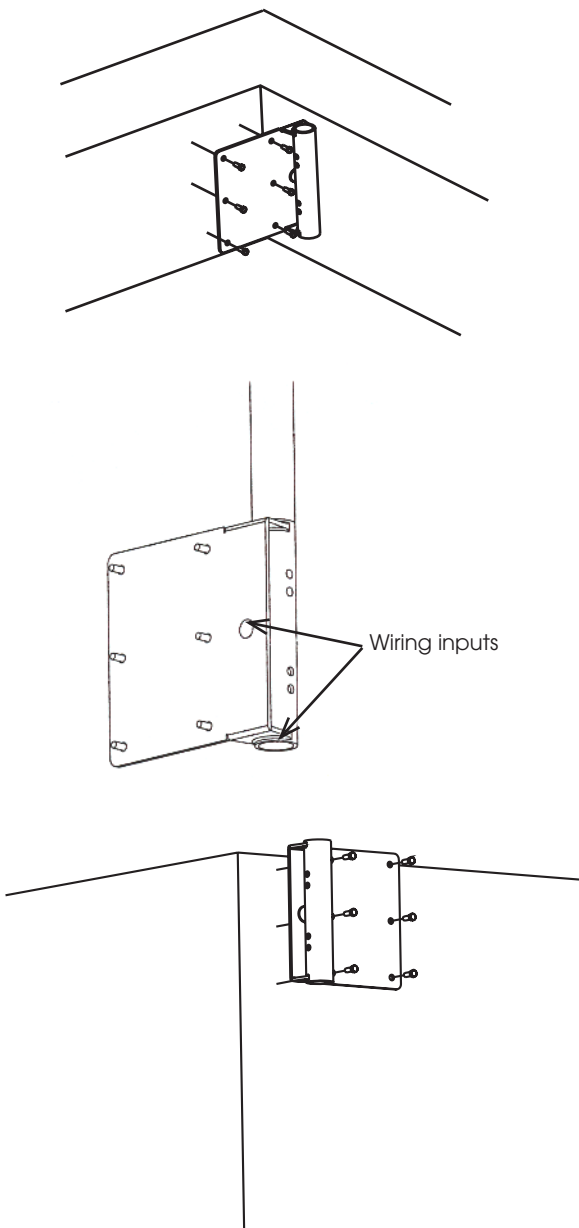

Figure 1
- 1 Choose an appropriate location and mount the bracket base (hardware not included). It may be mounted on the inside or outside of a parapet, in either a left or right hand configuration (Figure 1).